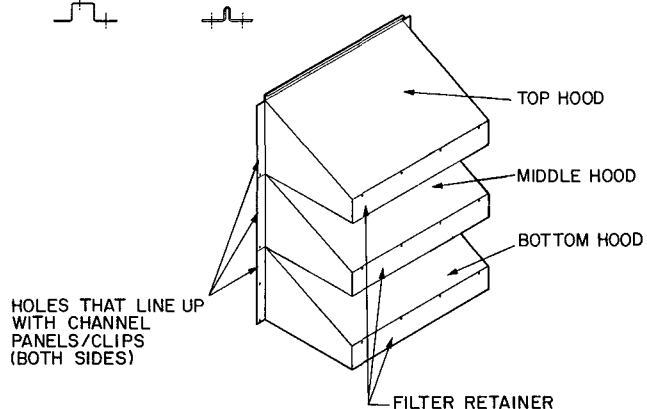

Fig. 10 — Economizer Hood Assembly Holes
7. See Fig. 10, and insert the capscrew bolts through the flange holes as shown, from the back side, threads facing outward. Note that though there are 12 holes (4 per hood) per side, only the 3 shown per side are to be used.